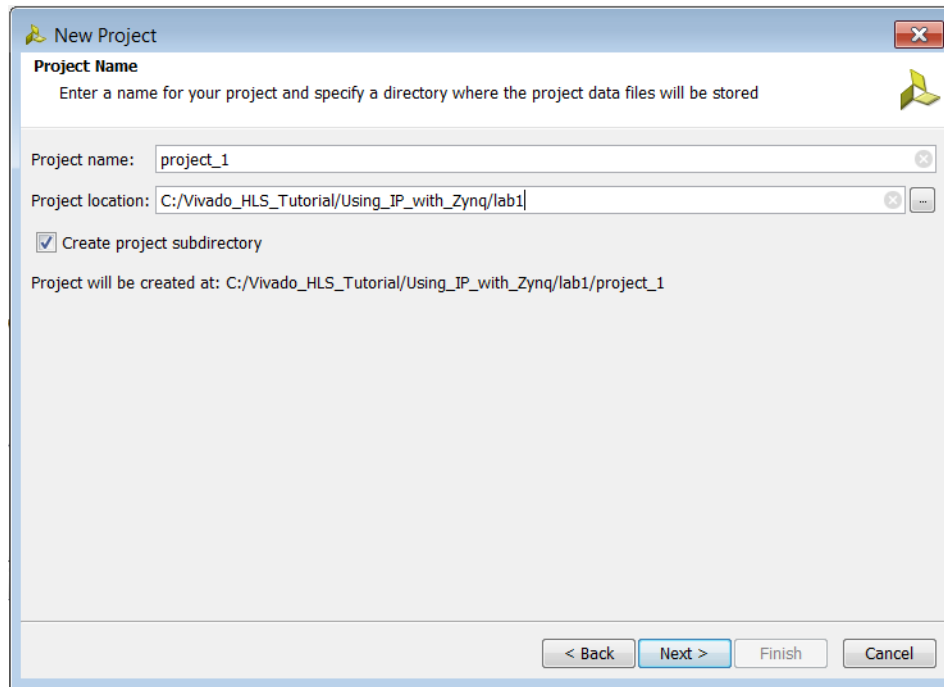

Figure 10-4: Specify the Vivado Project Directory
- b. In the Project Location text entry box, browse to the location of the tutorial file directory `Using_IP_with_Zynq\lab1` and click **Next** (Figure 10-4).